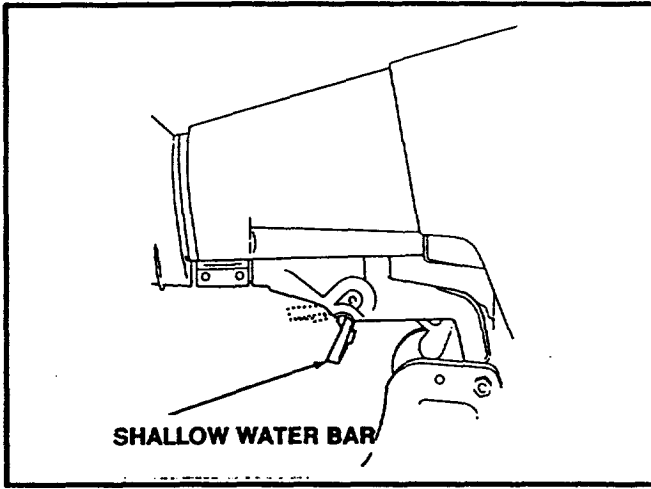

FIGURE 11
- Lift the shallow water drive bar up until it clicks into its "up" position. (Figure 11)